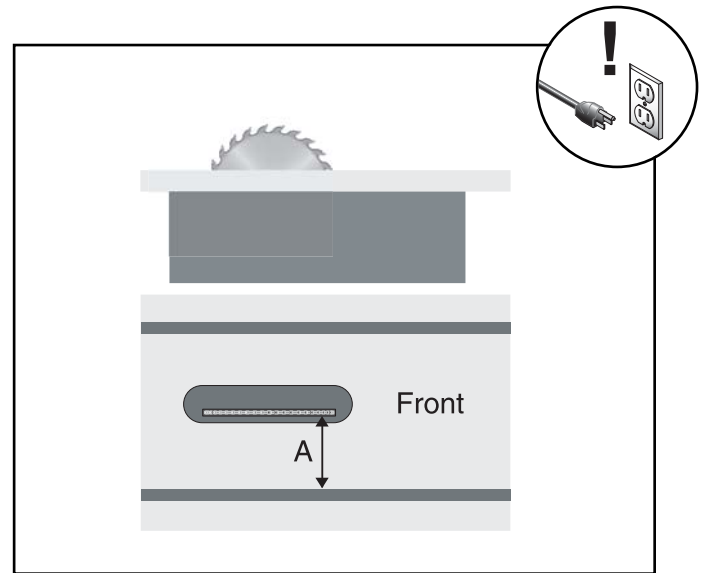

Figure 59. 90° blade parallelism measurement.
2. Tilt the blade to 90°. Using an adjustable square, measure the distance (A) between the miter slot and the front of the blade as shown in **Figure 59**.